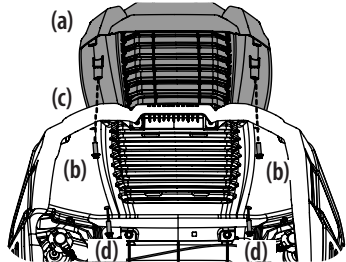

Figure 9
2. Secure the screw-on hood topper (a) from below, hand-tighten the screws (b) on the rear half of the hood and then snug them. See Figure 9.
3. With the rear screws in place, align the holes in the hood topper (a) with the holes in the hood (c) and secure in place with remaining two screws (d). See Figure 9.